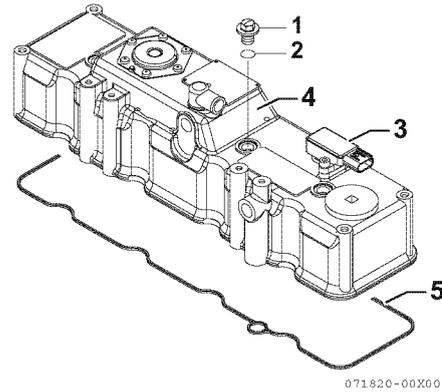

Figure 6-9
1. Disconnect the electrical wire from sensor (3, **Figure 6-9**) on the cylinder head cover.
2. Remove the cylinder head cover knobs (1, **Figure 6-9**).
3. Remove the O-ring (2, **Figure 6-9**) on each cylinder head cover knob.
4. Remove the cylinder head cover (4, **Figure 6-9**) and the cylinder head cover gasket (5, **Figure 6-9**).